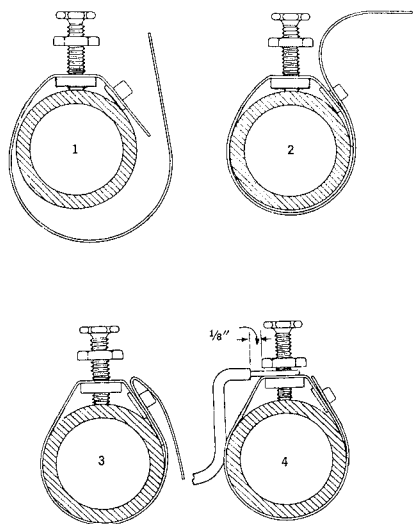

Fig. 21 — Station Ground Clamp Installation
5.14 The ground clamp (Fig. 21) should be located at an accessible point where it will not be subject to excessive movement or vibration and where it will least likely be damaged by plum-